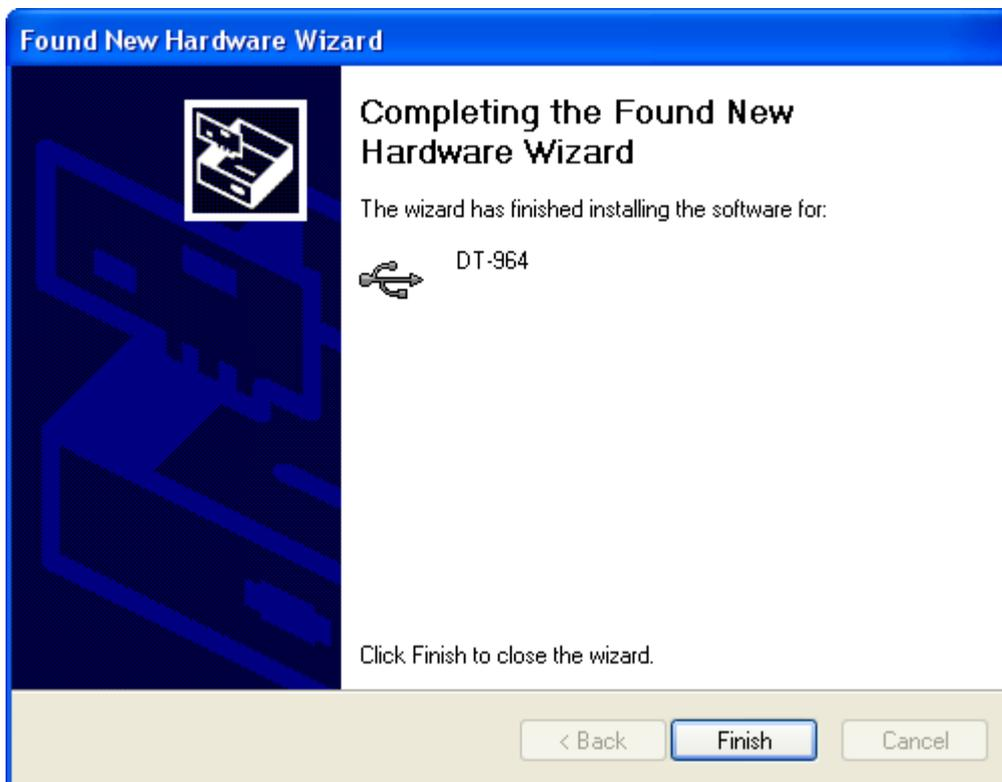

Fig.13. Driver installation completion
- After message that the installation of the driver has been completed (Fig.13), click .